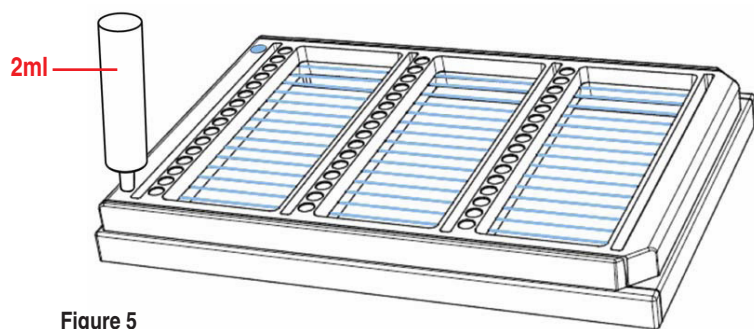

Figure 5
5. In case the protein has run too far through the capillary, indicated by an air bubble in the capillary near the protein loading bay, simply apply vacuum on the original protein loading well. (Figure 5).